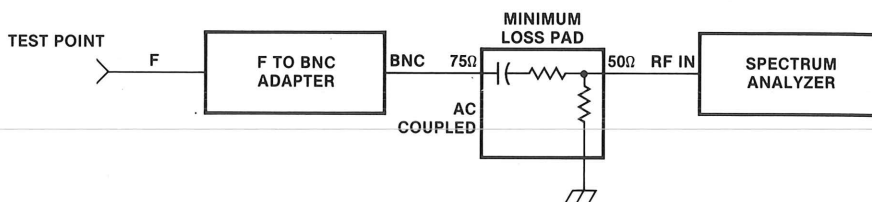

Figure 9-1. Equipment connection for hum measurements.
1. Set up the equipment as illustrated in figure 9-1.